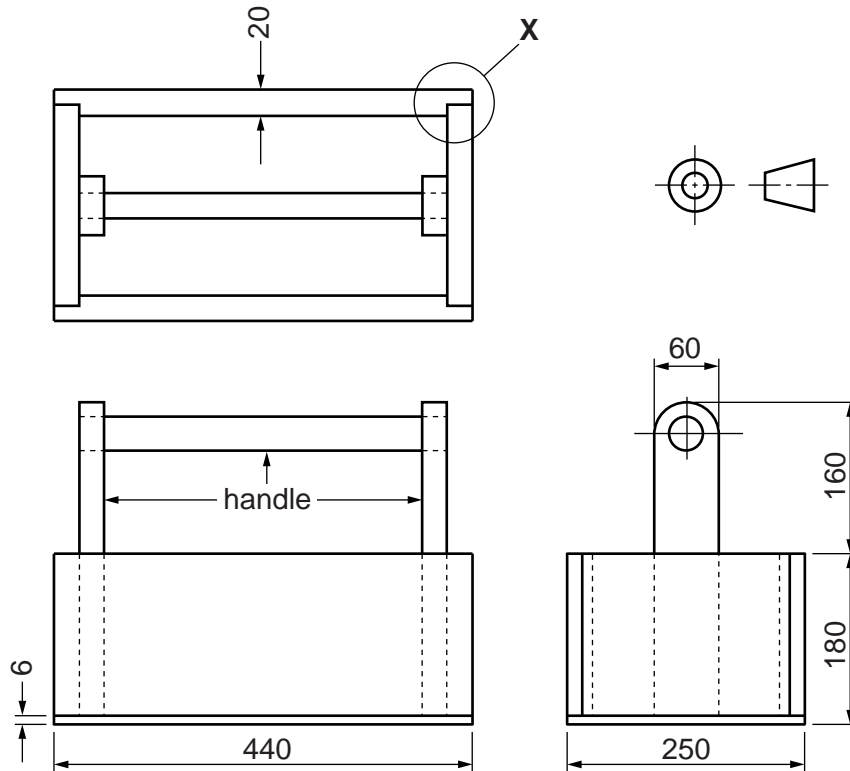

Fig. 1
- 1 Fig. 1 shows a toolbox which is to be made in a school workshop.